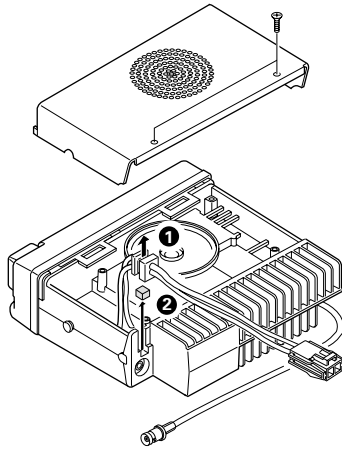

Fig. 1
1. Remove the upper half of the transceiver case, and lift the DC cord bushing (1) from the chassis.
2. Remove the pad as shown in Figure 1 (2).
3. Insert the KCT-19 cable (3) into the chassis (4).